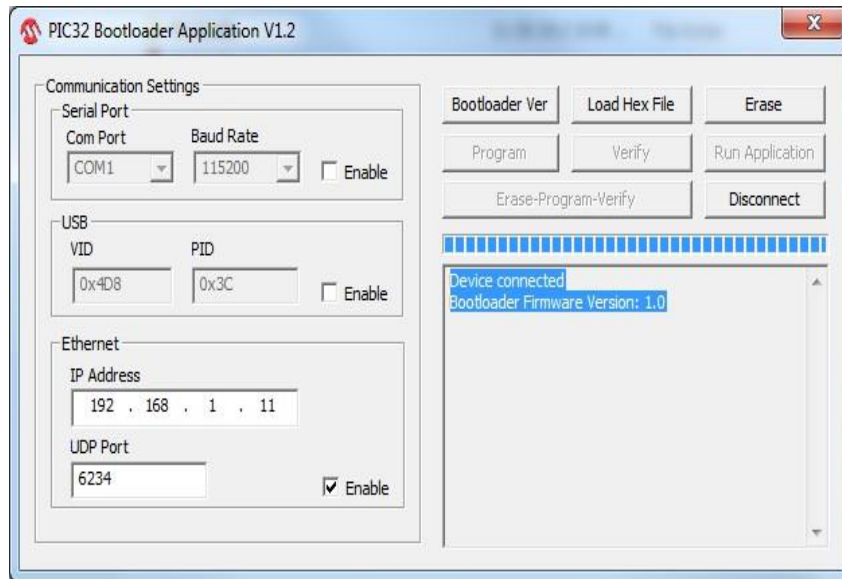

Figure 37: Bootloader Software
1. When connecting to an instrument with outdated/incorrect firmware, the board LEDs 1 and 2 start blinking and Bootloader Software pops up automatically (Figure 37)